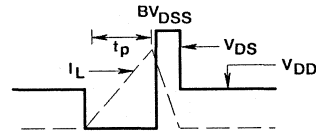

FIGURE 15. UNCLAMPED ENERGY WAVEFORMS
- $V_{DD} = 50\text{V}$, starting $T_J = +25^\circ\text{C}$, $L = 7.9\text{mH}$, $R_{GS} = 25\Omega$, $I_{PEAK} = 14\text{A}$. See Figure 15.
4. V_{DD} = 50V, Start T_J = +25°C, L = 7.9nH, R_{GS} = 25Ω, I_{pPEAK} = 14A (See Figure 15)